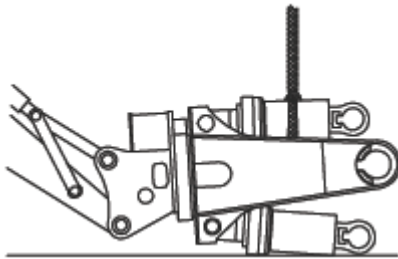

FIGURE 7-13
3. Use the excavator to position the attachment straight out and rest it on a firm, level surface with one cylinder facing up (see Figure 7-13).